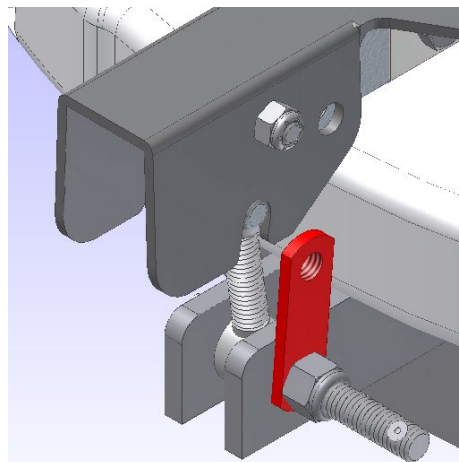

Figure 2
5. Using the appropriate rivet gun, apply pop rivet to the hole in the end of the bolt. See Figure 2.